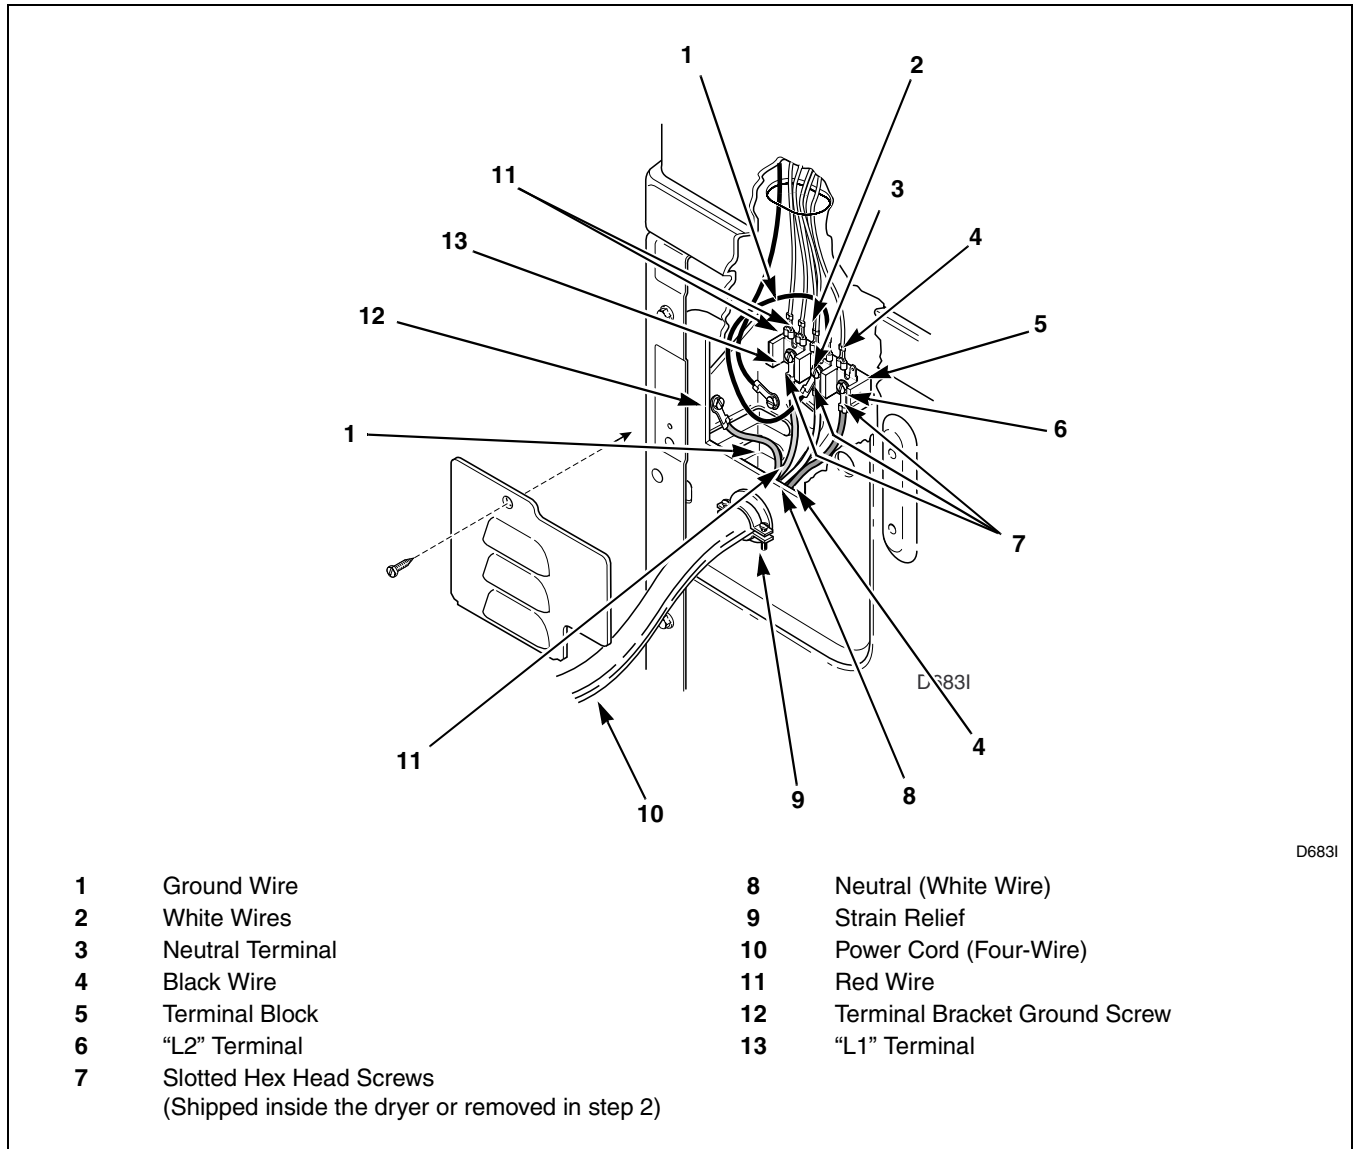

Figure 17
**NOTE:** When installing the white wire, loop the free eyelet end of the ground wire (from step 4) and place it together with the white wire and attach both wires to the neutral (center) terminal on the terminal block. Refer to *Figure 17*.
11. Check the continuity of the ground connection before plugging the cord into an outlet. Use an acceptable indicating device connected to the center grounding pin of the plug and the green screw on the back of the cabinet. Refer to *Figure 17*.